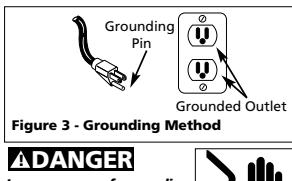

Figure 3 - Grounding Method
1. This product is for use on a nominal 120 volt circuit and has a grounding plug that looks like the plug illustrated in Fig. 3. Make sure the product is connected to an outlet having the same configuration as the plug. This product must be grounded. In the event of an electrical short circuit, grounding reduces risk of electrical shock by providing an escape wire for electric current. This product is equipped with a cord having a grounding wire with an appropriate